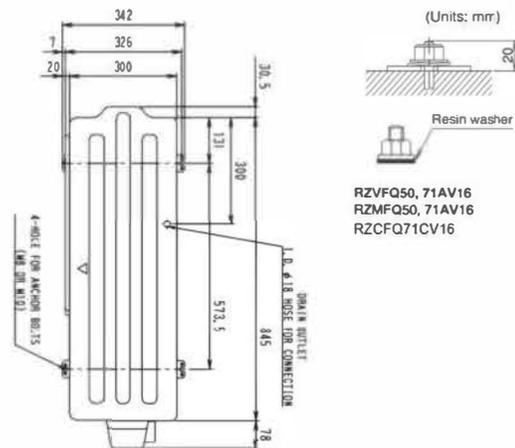

Fig. 1 BOTTOM VIEW
- In accordance with the foundation drawing in Fig. 1, fix the unit securely by means of the foundation bolts. (Prepare 4 sets of M12 foundation bolts, nuts and washers each which are available on the market.)
- Fix the outdoor unit to the foundation bolts using nuts with resin washers. (See the left-hand of Fig. 1 drawing )